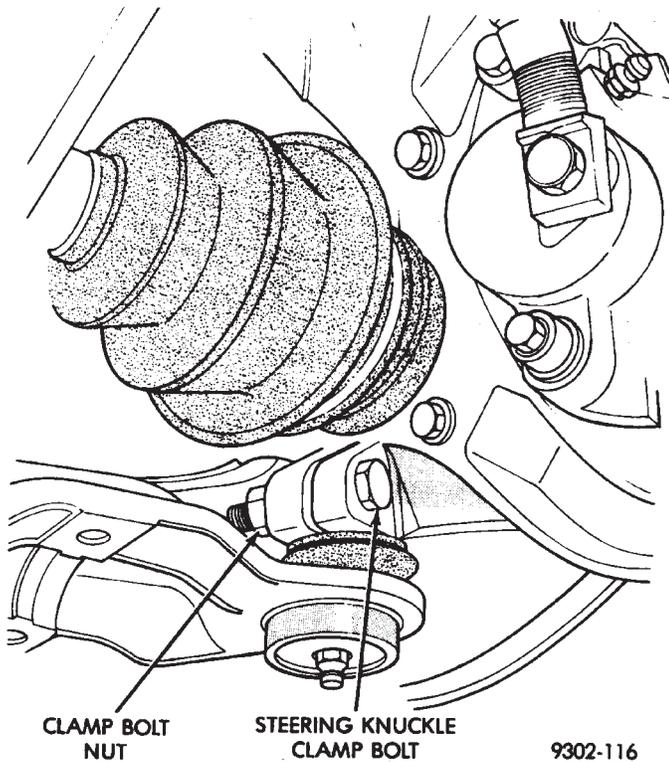

Fig. 7 Remove Or Install Steering Knuckle Clamp Bolt
(8) Remove the clamp nut and bolt (Fig. 7) securing the ball joint stud into the steering knuckle.